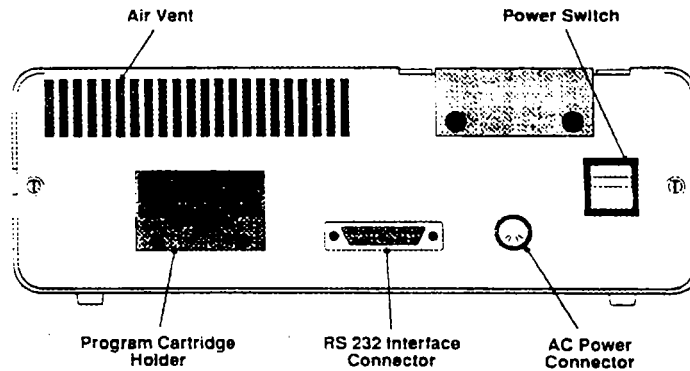

Figure 2. Rear Panel
4. Insert the Program Cartridge (with the white label facing up) into the Program Cartridge Holder found on the rear panel of the instrument. Push in until the white label is no longer visible (Refer to Figure 2).